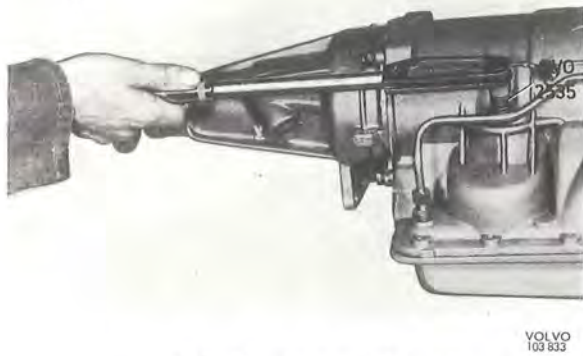

Fig. 4-74. Adjusting rear brake band
2. Use the special socket SVO 2535 and connect the torque wrench to the adjusting screw, see Fig. 4-74. Tighten the screw to 10 lb.ft (1.4 kgm). Back off the adjusting screw one turn.